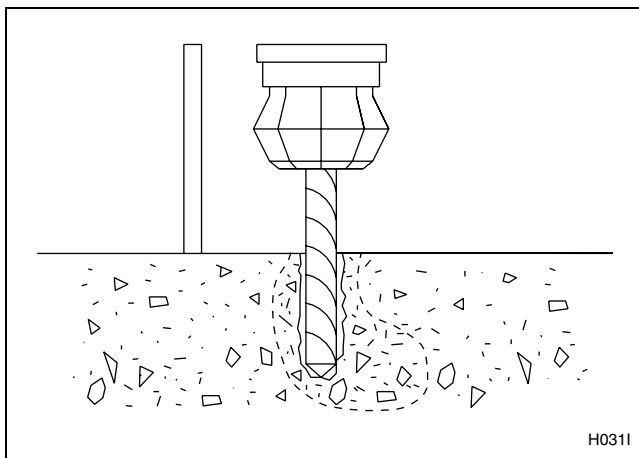

Figure 14
4. Drill and chisel out a conical hole large enough to accept the J-bolt. Refer to *Figure 14*.